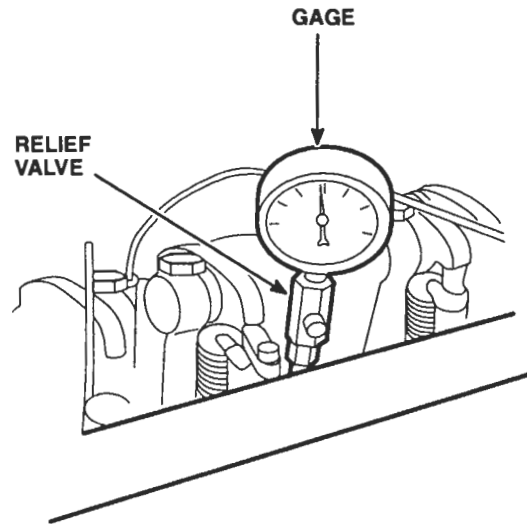

Figure 2. Checking Compression Pressure
3. Remove the injector and install an adaptor and pressure gage from Diagnosis Kit J 9531-01 (Figure 2.)